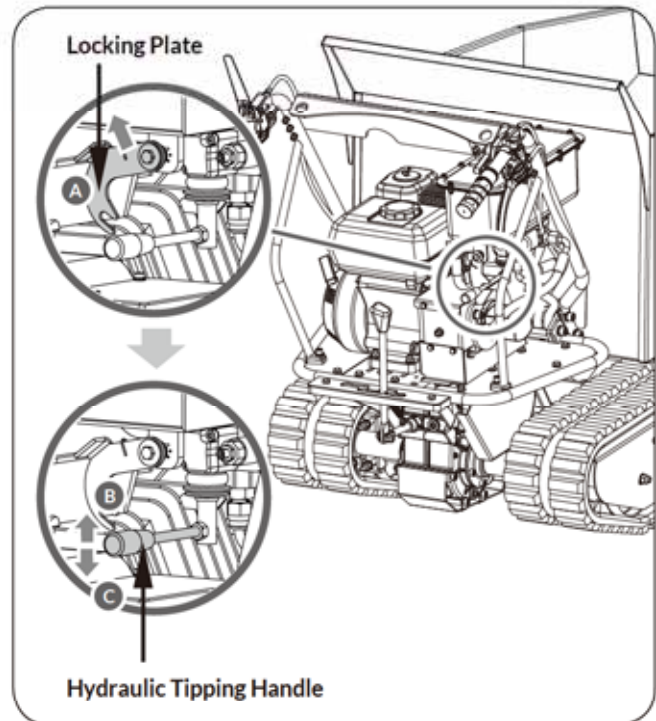

Figure 3
- » Using your left hand, pull the locking plate (see **Figure 3**, III. A) up to release the tipping handle, and hold in position.